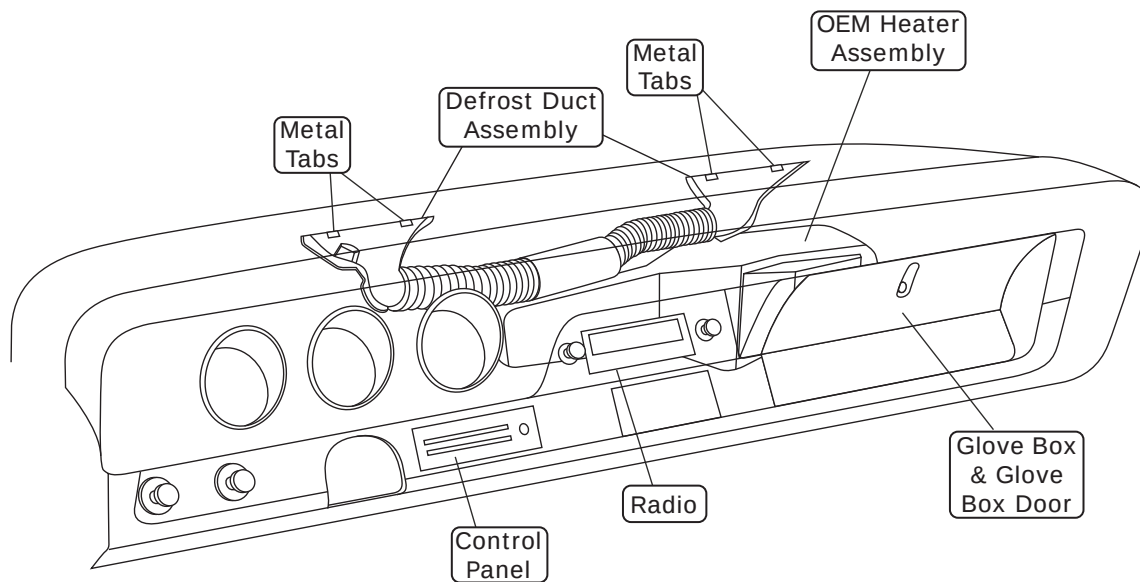

Figure 1
4. Remove the OEM defrost duct assembly by straightening (4) metal tabs (See Figure 1, below).
5. Remove the OEM heater assembly (discard) (See Figure 1, below).